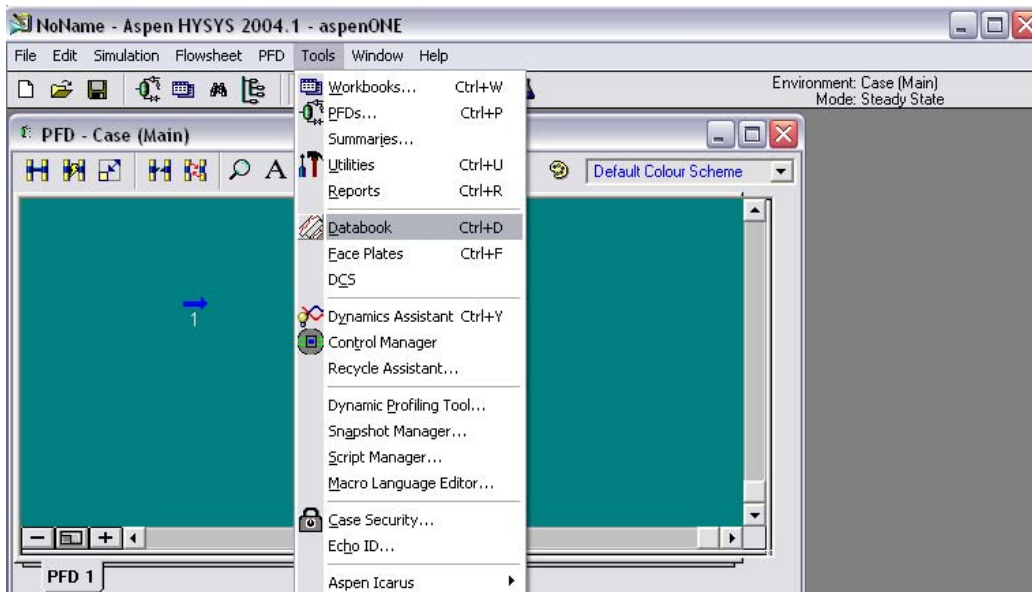

Figure 2-7
1. Go to the **Tools** menu and select **Databook** or click **Ctrl+D** as shown in Figure 2-7.